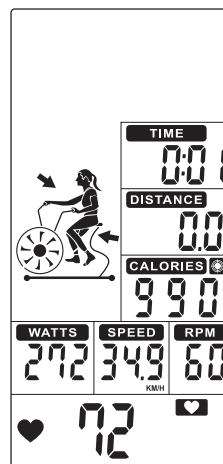

FIGURE 44
- The preset CALORIES value counts down, TIME (DISPLAY 3), DISTANCE (DISPLAY 4), WATTS (DISPLAY 6), SPEED (DISPLAY 2) and RPM (DISPLAY 1) start counting. (Figure 44)